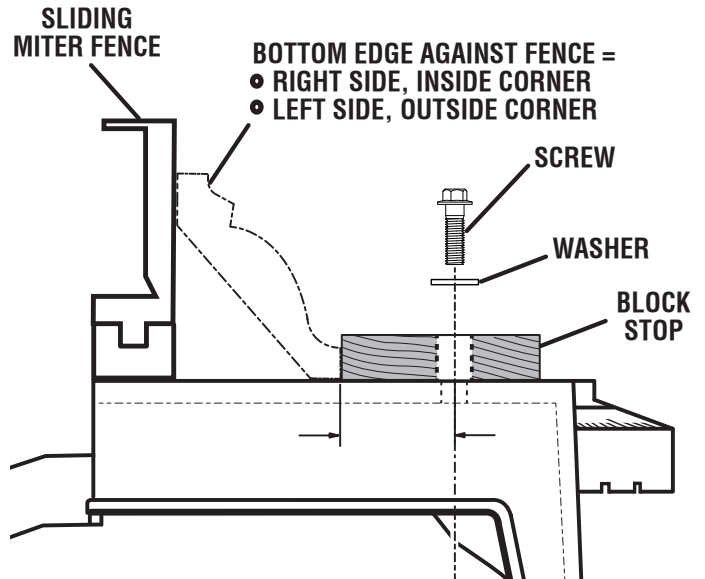

Fig. 35
See Figures 35 - 36.
- Nest and secure the crown molding against miter fence and the block stop, as shown in figure 35.